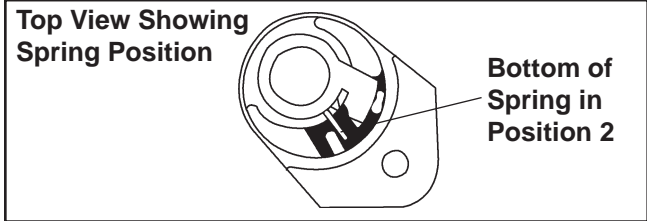

Figure 5-11. Choke Lever with Cap Removed.
3. Install choke shaft and spring assembly with the lower spring tang installed in the second notch from the right. See Figure 5-11.